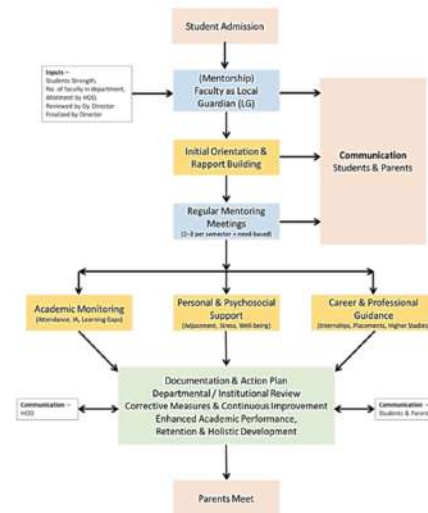

Figure 9.2.1: Structure and Process of the Local Guardian Mentoring System
Each student is assigned a faculty member as a Local Guardian (LG) who provides continuous academic and personal support, ensuring personalized guidance, early identification of issues, and timely intervention throughout the academic year (Refer Figure 9.2.1: Local Guardian System Framework).